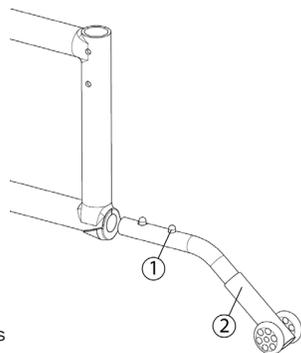

Fig. 5
- Anti-tippers (Fig.5) were designed to prevent falls from the wheelchair.
- To remove or rotate the anti-tippers up, push the release button (1) and pull out or rotate the anti-tippers (2).